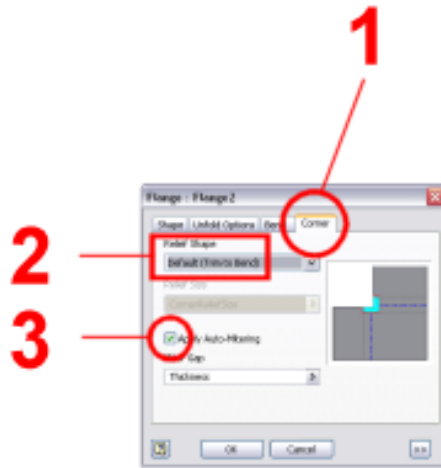

Figure 5
This is achieved on the Corner tab of the Flange and Contour Flange dialog boxes (1 in Figure 5 above) by setting Relief Shape to **Trim to Bend** (2) and clearing the Apply Auto-Mitering check box (3).